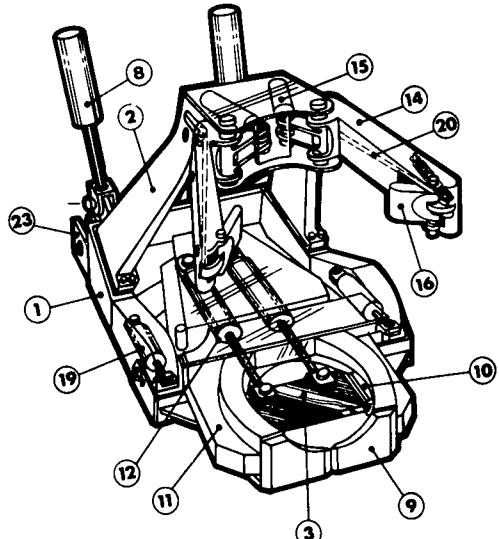

FIG. 2—SINGLE GUILLOTINE BLADE
4.1.2 Single Guillotine Blade—Felling is by a single sliding shear blade that works against a fixed anvil or tree clamping device (Fig. 2).